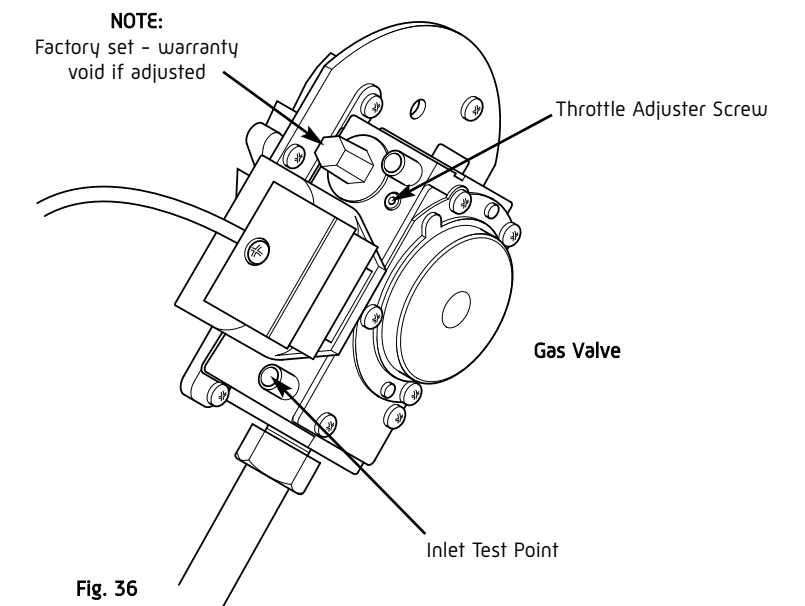

Fig. 36
5. If the Carbon Dioxide (CO₂) level is outside the required values given in Section 13.2 (Table 2) then adjust the throttle screw (Fig. 36) until the CO₂ is at the correct setting level. See Table 4. Clockwise to decrease CO₂, anti-clockwise to increase CO₂.